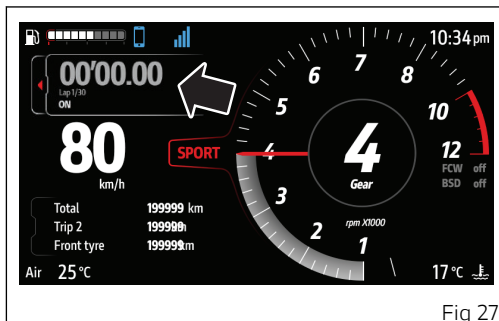

Fig 27
From the Interactive Menu select the "Lap" item and press the joystick in the middle, the corresponding window (Fig 27) will be displayed.
- If it is Off, the word "ON" is displayed in white with a grey stopwatch (Fig 27), press the joystick in the middle to activate the function.